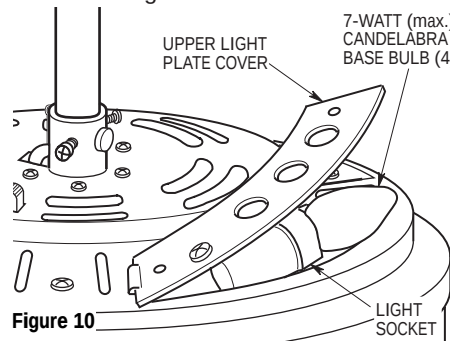

Figure 10
- 11. Pull up on the upper light plate cover to expose the light socket. Place a 7-watt (maximum) candelabra base bulb (not supplied) into the light socket (Figure 10). Insert bulb into each of the remaining three sockets.